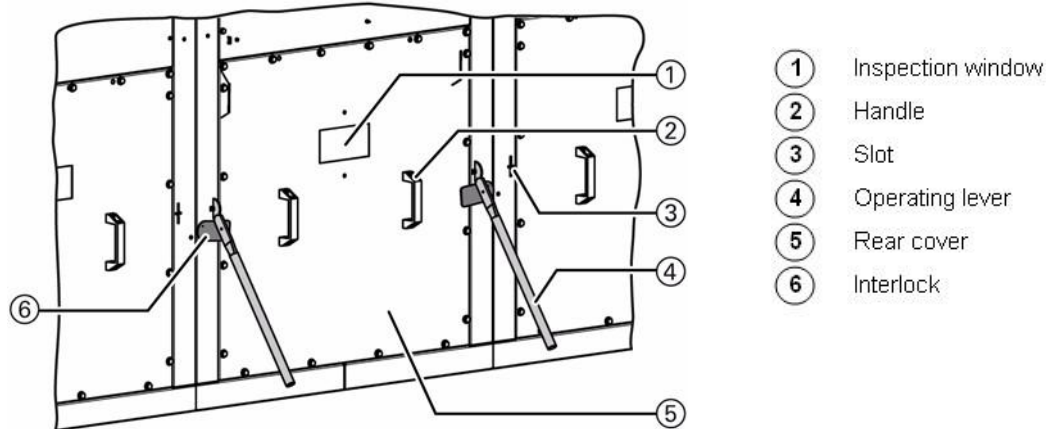

Fig91. View of the rear cover
- ⇒ Insert two operating levers (pos.nr ④ in fig91) into the slots on both sides of the rear cover (pos.nr. ⑤ in fig91).
- ⇒ Check by looking through inspection window (pos.nr ① in fig91) that inner shutter is closed.
- ⇒ While pushing down the operating levers the rear cover interlocking (pos.nr. ⑥ in fig91) is locked.
- ⇒ Check by looking through inspection window (pos.nr. ① in fig91) that the inner shutter is open.